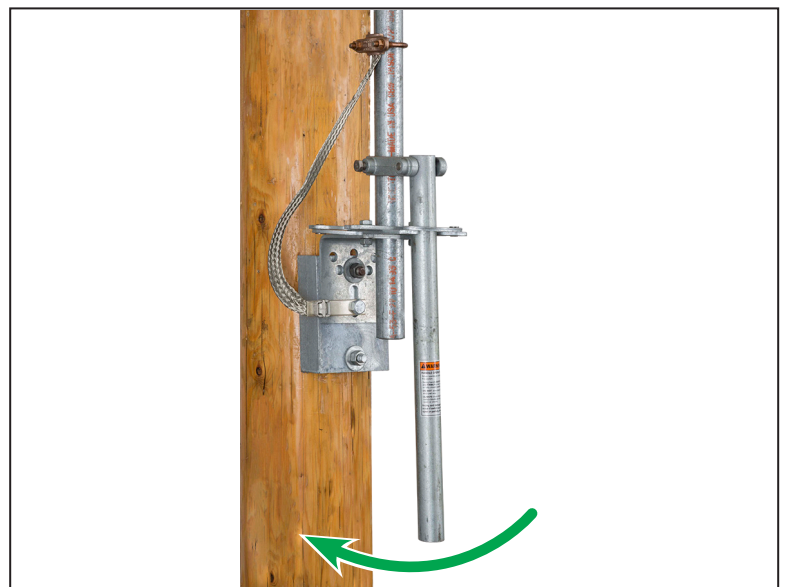

Figure 25. Verify the wind up.
- (d) Push the handle into the closed stop position. It should take significant force to secure the handle into the closed stop. The handle will be firmly pressed against the left side of the closed stop plate. This pressure will hold the torque in the pipe, creating the desired windup. Move the handle into the **Open** position to verify it fits into the open stop-plate. See Figure 25.